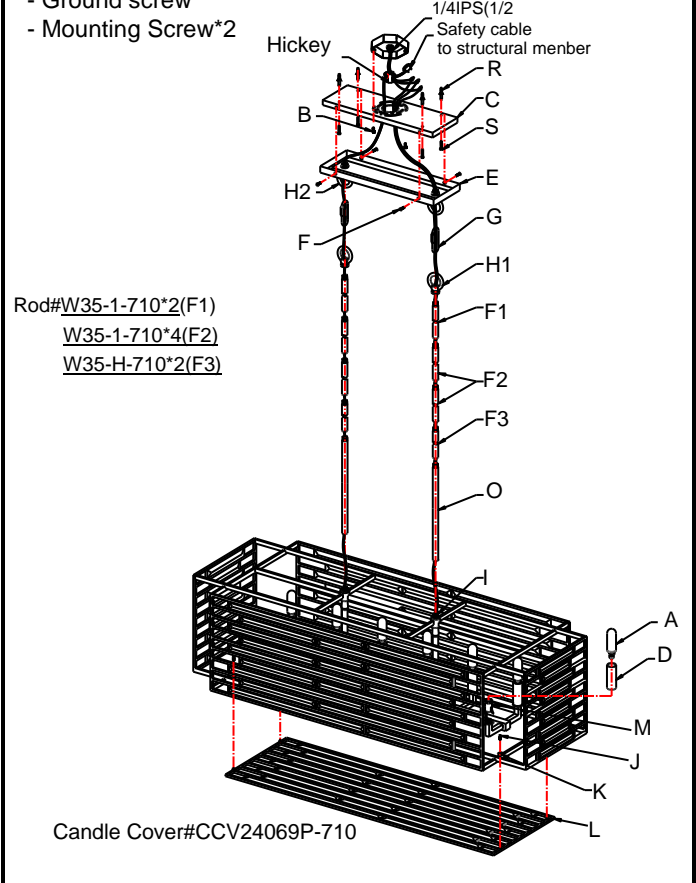

Fig. 2
CONNECTING THE WIRES (Fig. 2)
11. At this point, connect the electrical wires as shown in figure 2, making sure that all wire connectors are secured. If your outlet has a ground wire (green or bare copper), connect the fixture's ground wire to it. Otherwise, connect the fixture's ground wire directly to the mounting plate using the green screw provided.
12. Tuck the wire connectors neatly into the ceiling Junction Box and then raise the canopy (E) all the way to the ceiling.